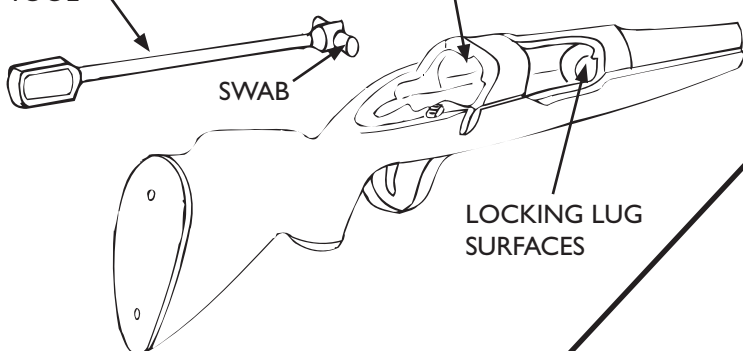

FIG. 2
2. Remove bolt. Insert swab fully into action and rotate to clean. Keeping swab horizontal during insertion and extraction will clean the bolt slide areas. See Fig. 2.